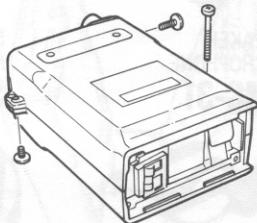

Fig. 2.
4. Remove the three screws holding the front and rear of the case together. (Fig.2)